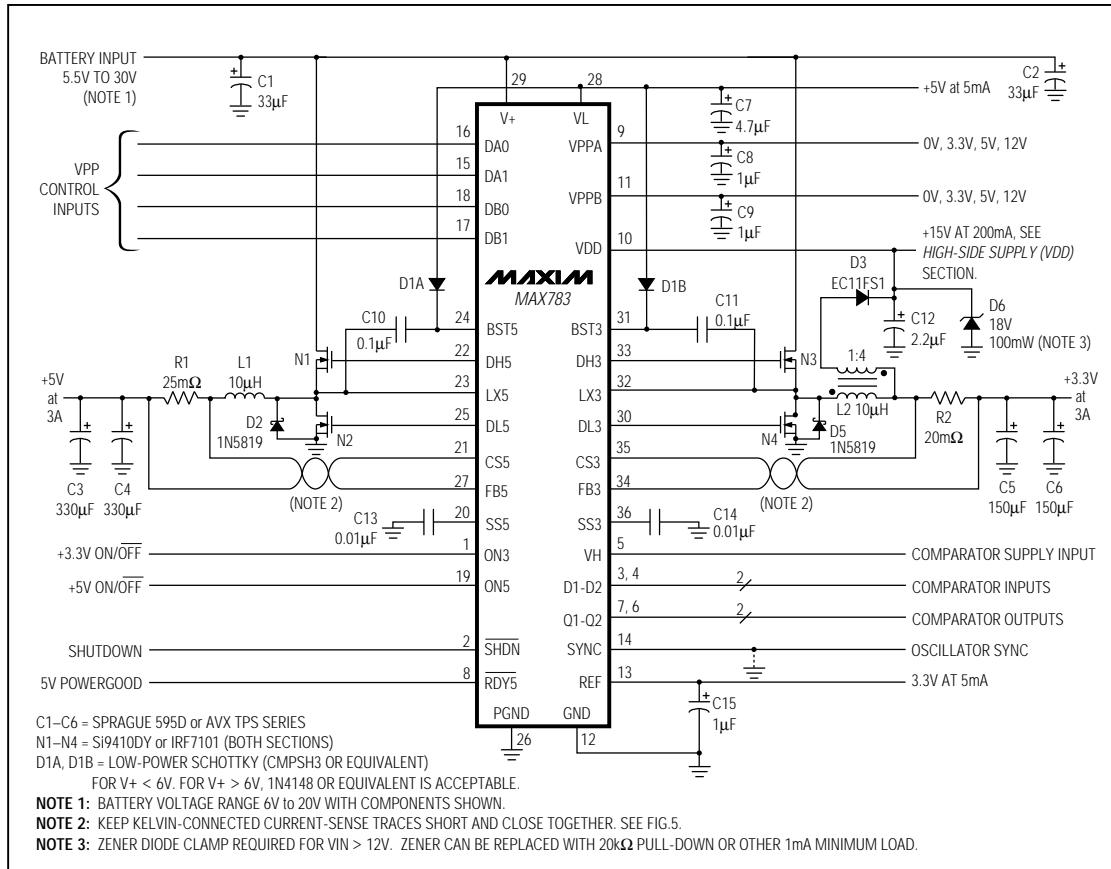
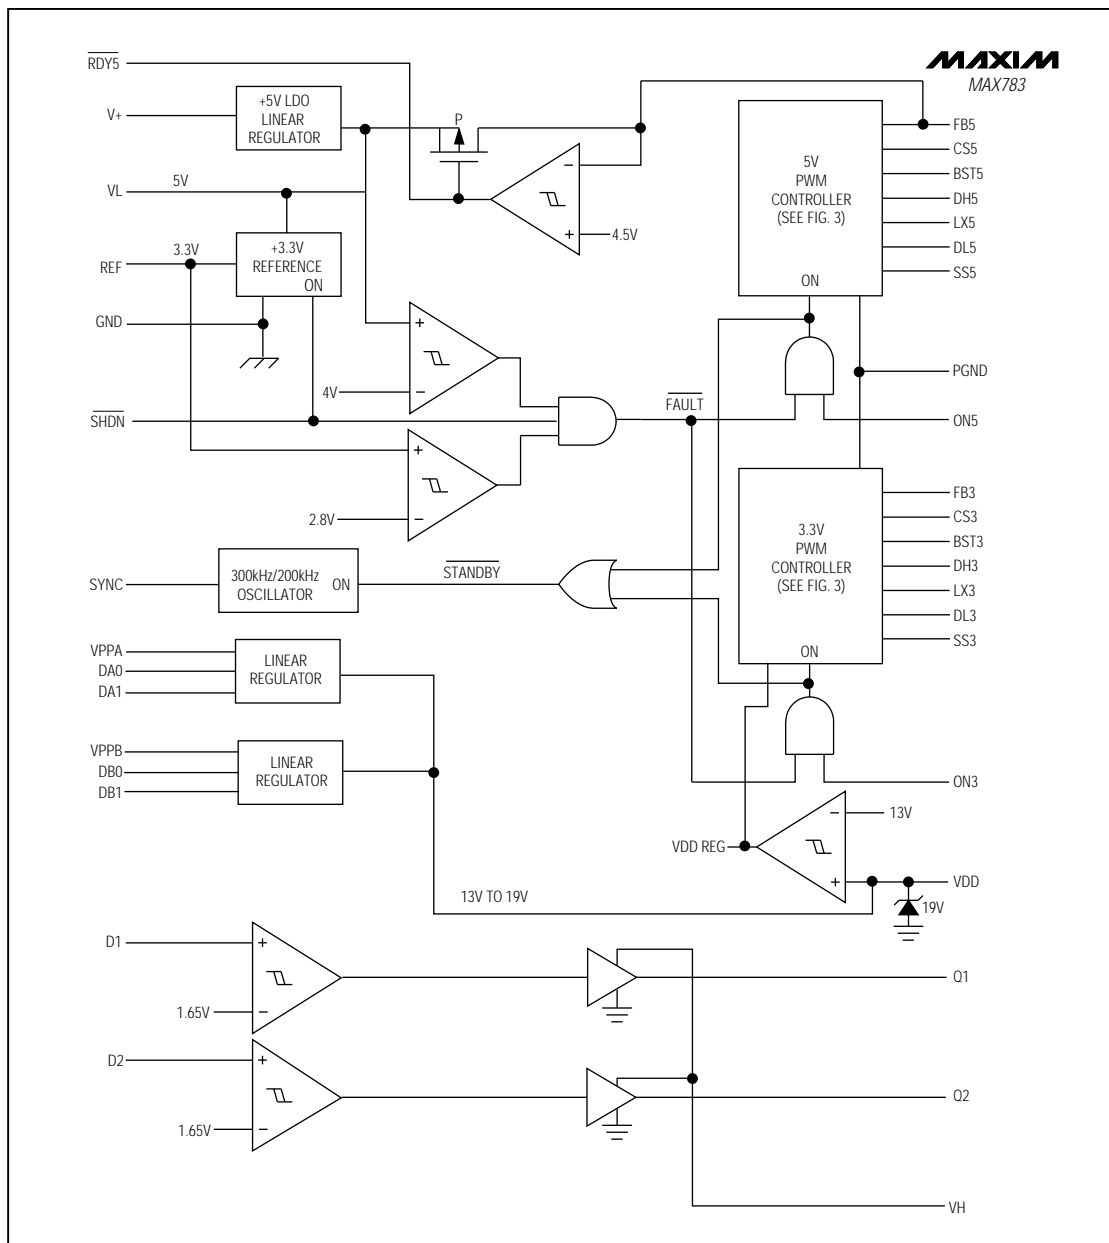

Figure 1. Standard Application Circuit
Figure 2. Block Diagram
(Circuit of Figure 1, Transpower TTI5902 transformer, $T_A = +25^\circ C$, unless otherwise noted.)
(Circuit of Figure 1, Transpower TT15902 transformer, $T_A = +25^\circ\text{C}$, unless otherwise noted.)
The MAX783 converts a 5.5V to 30V input to six outputs (Figure 1). It produces two high-power, PWM switch-mode supplies, one at +5V and the other at +3.3V. The two supplies operate at either 300kHz or 200kHz, allowing for small external components. Output current capability depends on external components, and can exceed 6A on each supply. Two 12V VPP outputs, an internal 5V, 25mA supply (VL) and a 3.3V, 5mA reference voltage are also generated via linear regulators (Figure 2). Fault-protection circuitry shuts off the PWM and high-side supply when the internal supplies lose regulation.
The +5V supply is generated by a current-mode PWM step-down regulator using two N-channel MOSFETs, a rectifier, plus an LC output filter (Figure 1). The gate-drive signal to the high-side MOSFET, which must exceed the battery voltage, is provided by a boost cir-
cuit that uses a 100nF capacitor connected to BST5. The +5V supply's dropout voltage, as configured in Figure 1, is typically 400mV at 2A. As V_+ approaches 5V, the +5V output falls with V_+ until the VL regulator output hits its undervoltage lockout threshold at 4V. At this point, the +5V supply turns off.
Figure 1's predesigned application circuit contains the correct component values for 3A output currents and a 6V to 20V input range. Use the design procedure that follows to optimize this basic schematic for different voltage or current requirements.